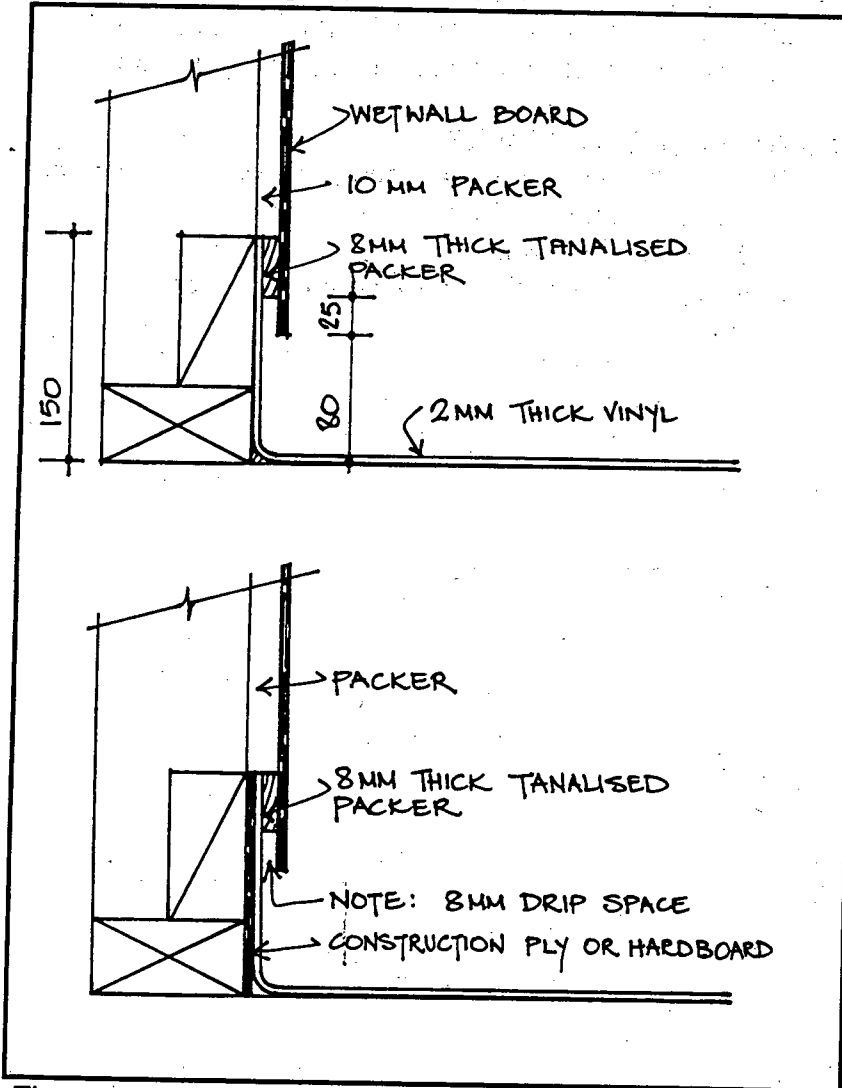

Figure 7
1. Pack out the walls to give a drip space in the shower area (minimum 8mm). Nail the bottom packer through the vinyl with galvanised nails. Figures 7 and 11.
- Cove vinyl up all walls. (See Figures 7, 8 and 10.)
See Figures 7 and 8 for details of recommended methods.